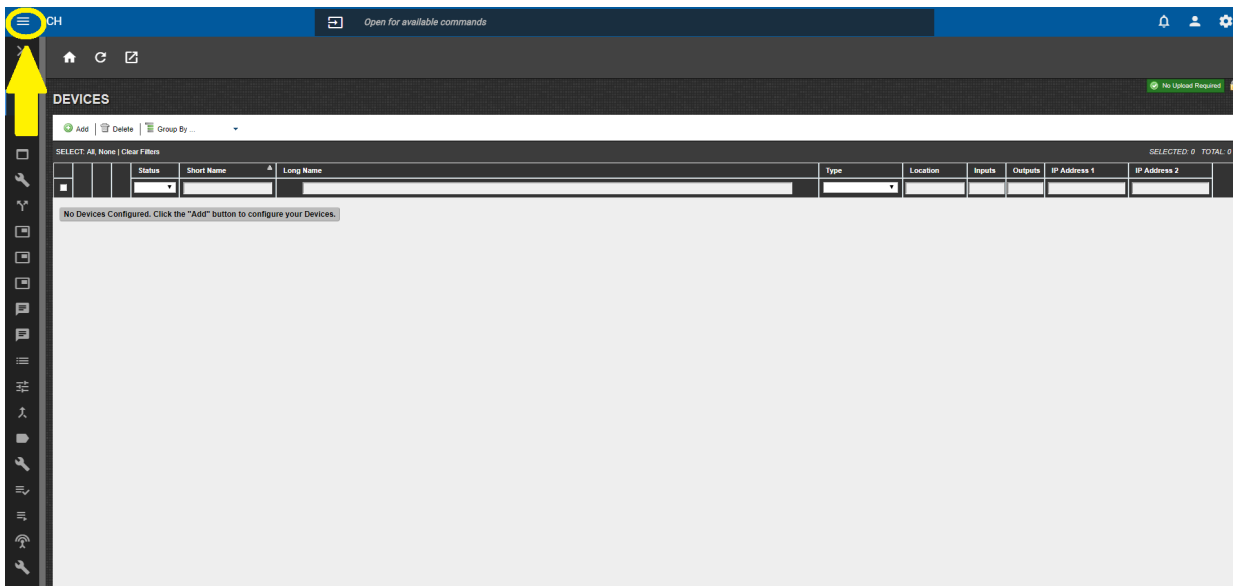

Figure 9-3: MAGNUM - Expanding the Pane
4. If navigation pane is collapsed, click the icon at the top-left of the page to expand the pane as highlighted in Figure 9-3.